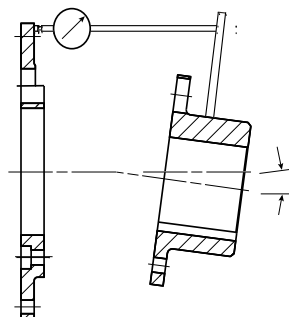

Figure 2
- 8.5. **Angular Alignment** – Rigidly mount a dial indicator on either the hub or shaft, reading the face of the adapter, as shown in Figure 2. Rotate both pieces of equipment together making sure the shaft axial spacing remains constant. Adjust the equipment by shimming and/or moving it so that the indicator reading is within 0.002” per inch of coupling flange diameter “D” or values shown in Table 1.